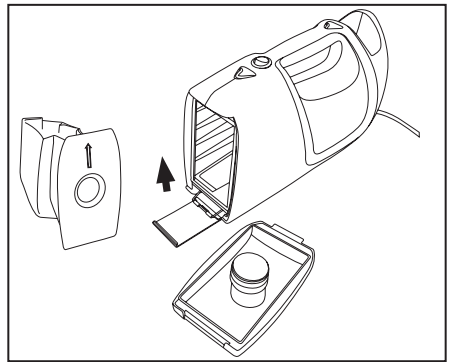

Fig. 12
- Install a new bag with the arrow on the cardboard pointing to the top of the vacuum (Fig. 12).